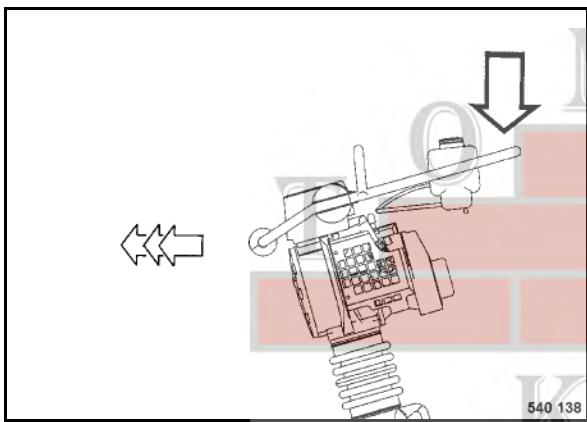

Fig. 21 □
- The travel speed can also be influenced by varying the pressing force on the steering bow (Fig. 21).